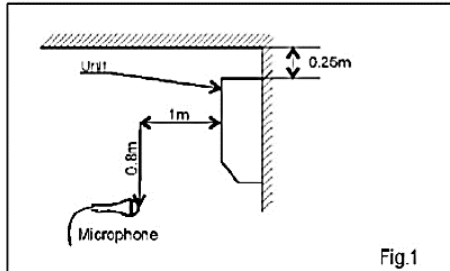

Figure 1. Wall Mounted
7.2 **Sound Pressure Level Spectrum (Measured as Figure 1)**